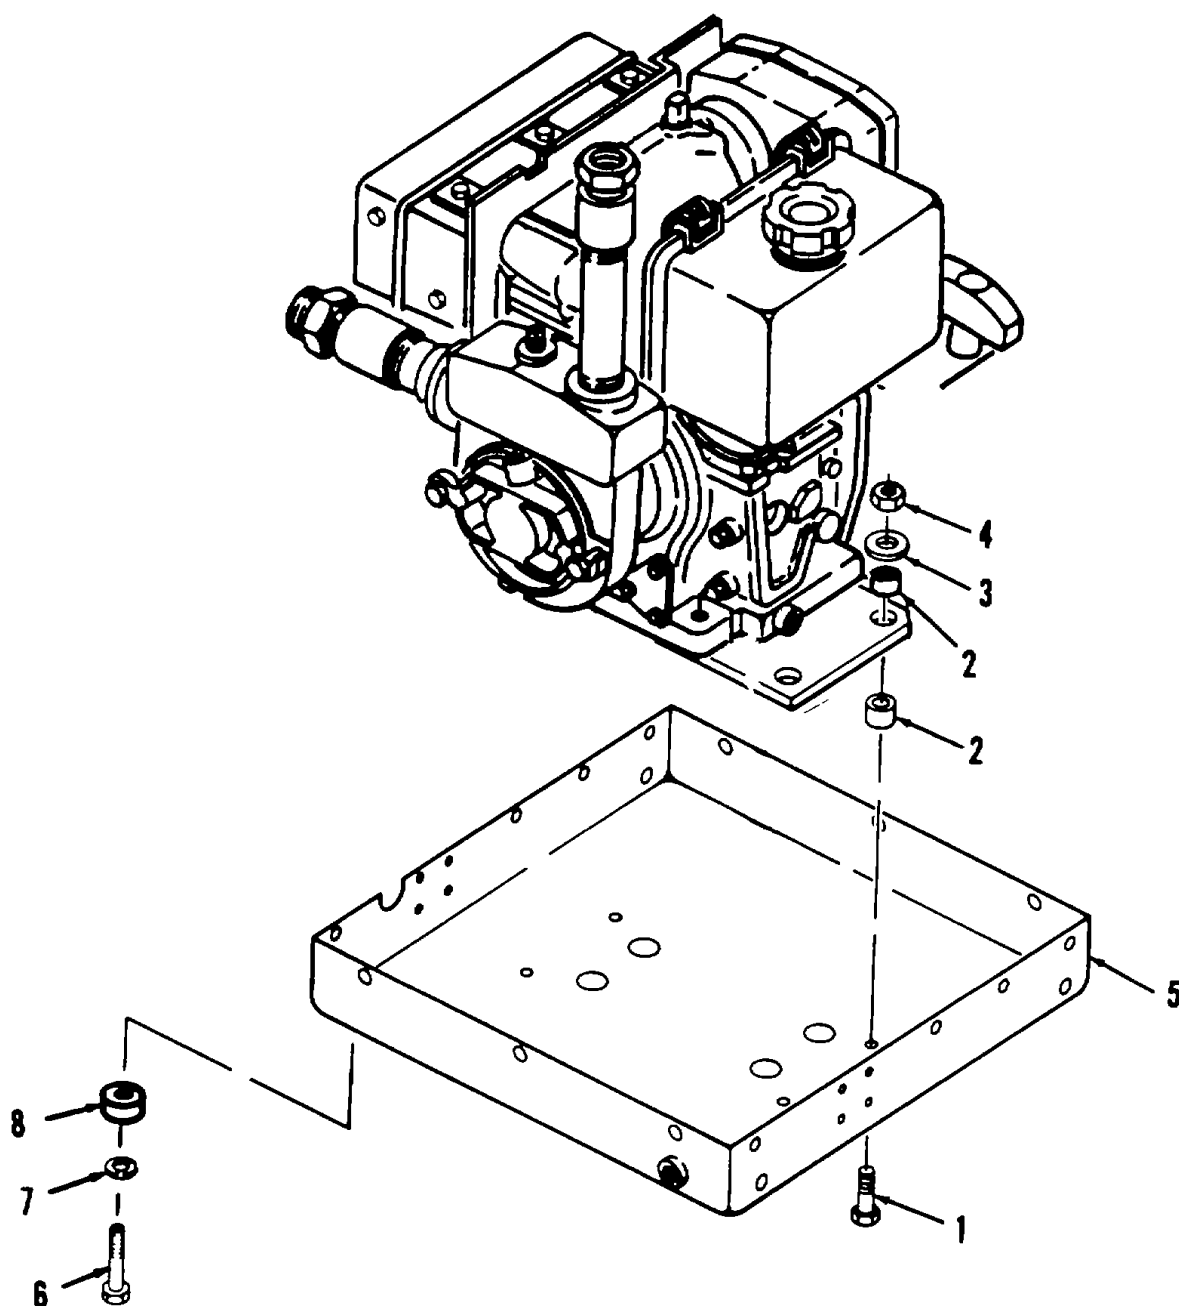

Figure 4-16. Bottom Pan Frame Repair and Replacement.
a. Removal (Refer to Figure 4-16).
(1) Remove four screws (1), eight shock mounts (2), four flat washers (3), and four lock nuts (4).
(2) Remove bottom pan frame (5).
(3) Remove four screws (13), four flat washers (14), and four bumpers (15) from bottom pan frame (5).